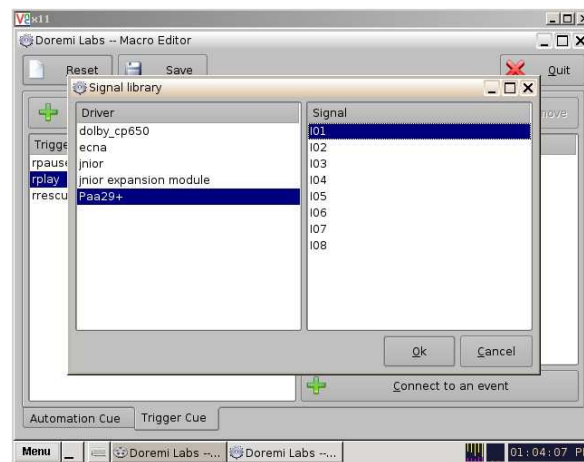

Figure 8.3.4D
4. Pressing this button you will open the "Signal Library" pop-up window, you must select the "Paa29+" in the "driver" window and choose the appropriate input of the Paa29+ in the "Signal" window, every signal matches the physical input with the same number in the device. You can see an example for the Input 1 in the **figure 8.3.4D.**